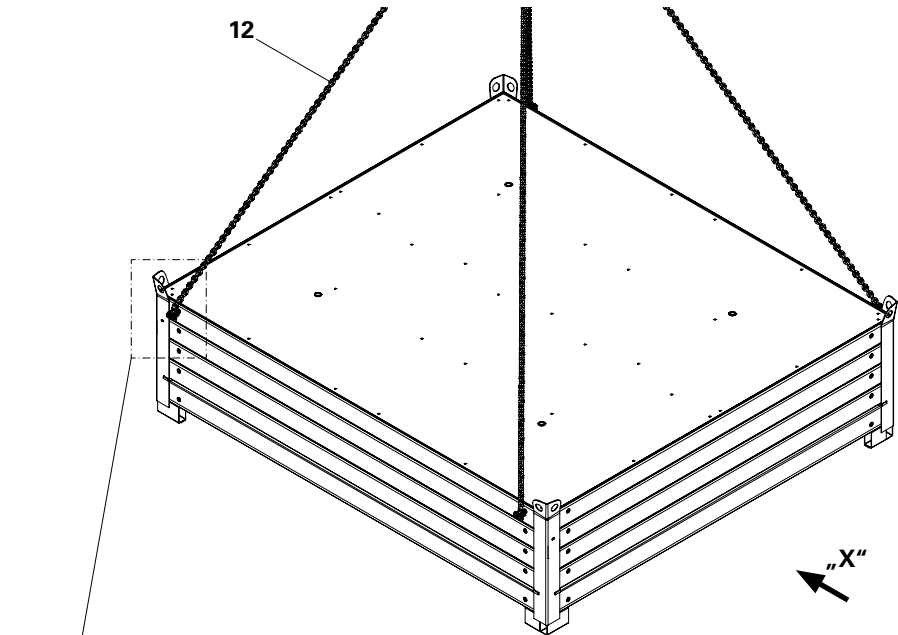

Fig. A1.04
Remove panels (10) individually or max. 4 panels as a stack from the stacking devices. (Fig. A1.04)
1. Insert locking pins (12.1) of the lifting gear (12) into the drilled holes of the top panel as far as possible – 4x. (Fig. A1.04 + A1.04a + A1.04b)